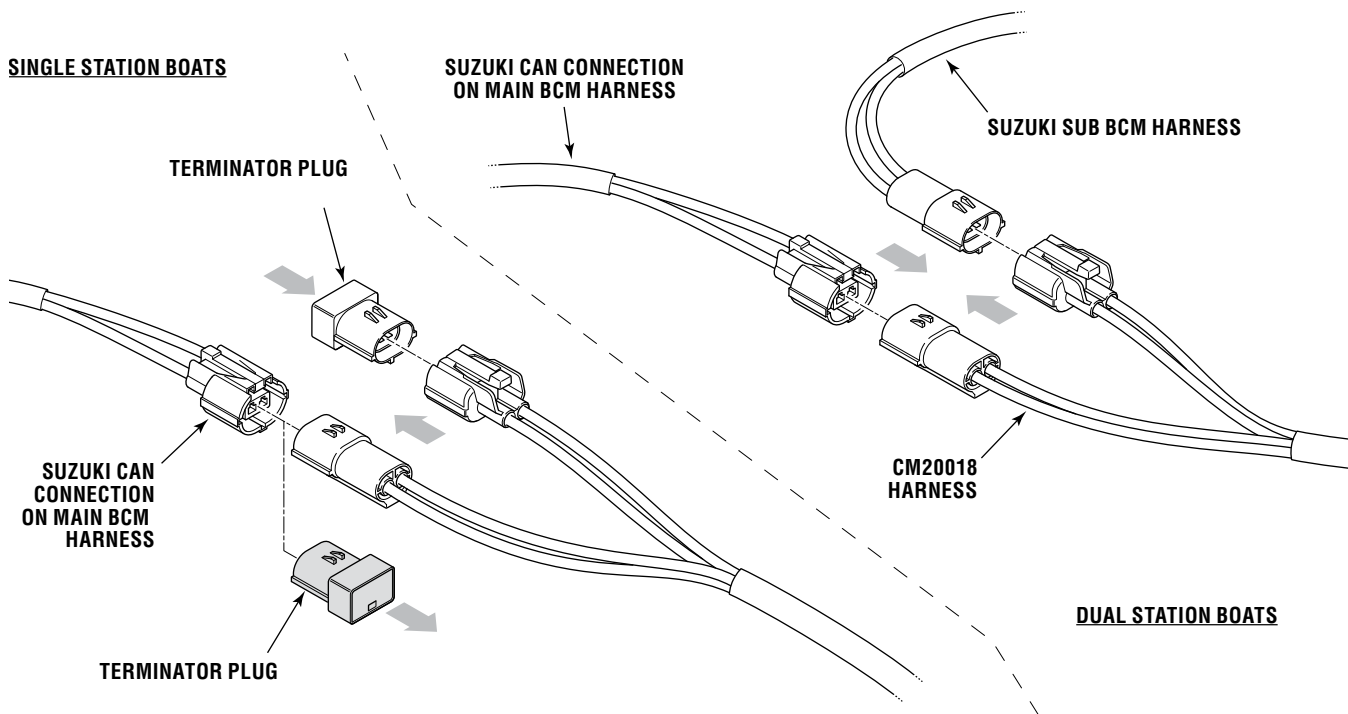

Figure 6-6. CM20018 connection to Suzuki CAN network.
*Single station boats* – the connector will have a male network terminator plug installed in it. Remove the terminator plug and insert the CM20018 harness plug labeled '1st Station'. Install the terminator plug in the CM20018 harness receptacle labeled '2nd Station'. See figure 6-6.
*Dual station boats* – The connector will be connected to the Suzuki Sub BCM harness. Break the connection and connect the two halves to the CM20018 harness plugs. The Sub BCM harness will connect to the plug labeled '2nd Station' and the Main BCM harness to the plug labeled '1st Station.' See figure 6-6.